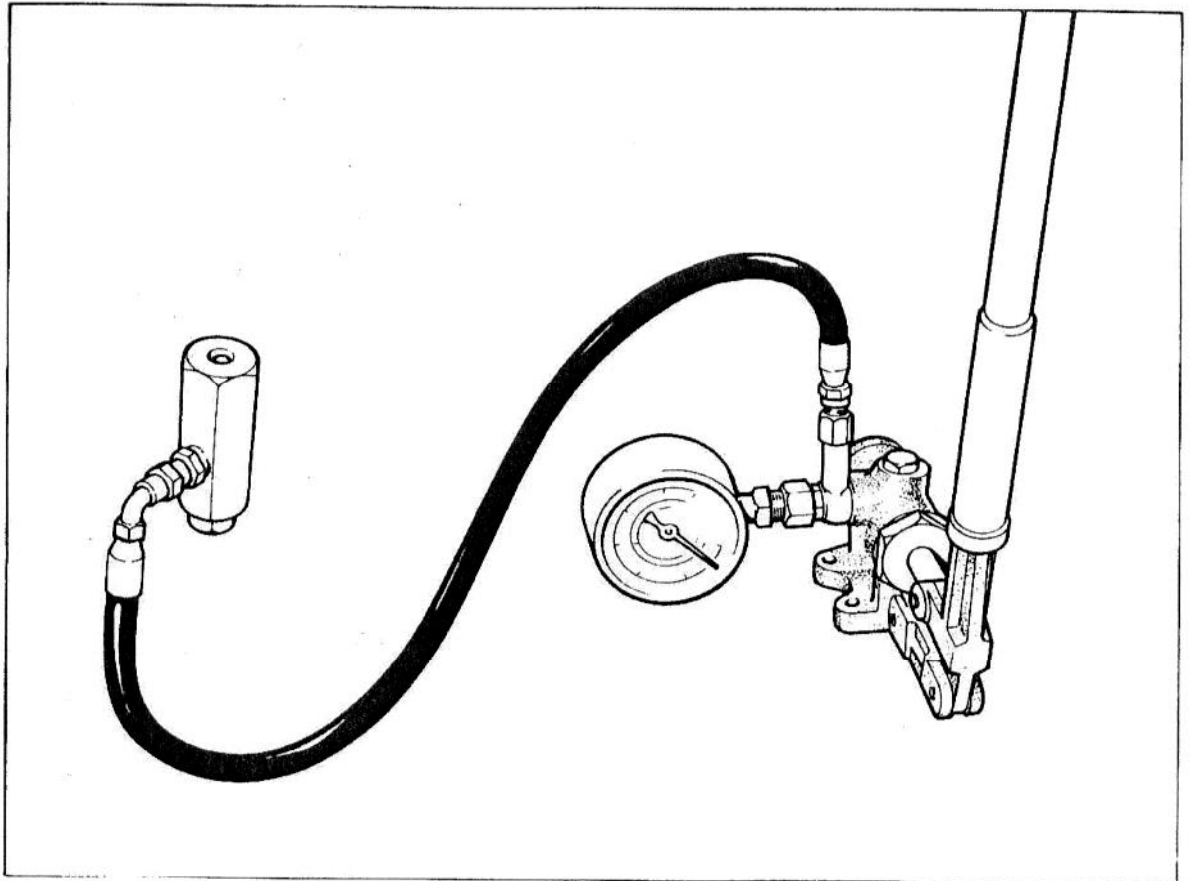

FIG. 13
1. (Fig. 13). Fit the adaptor MF 348 to a Lere hand pump.